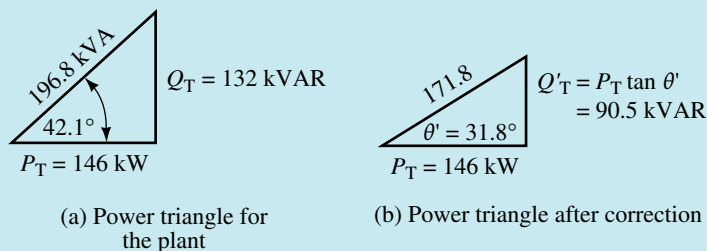

FIGURE 17–21 Initial and final power triangles. Note that P_T does not change when we correct the power factor.
Now consider Figure 17–22. $Q'_T = Q_C + 132 \text{ kVAR}$, where $Q'_T = 90.5 \text{ kVAR}$. Therefore, $Q_C = -41.5 \text{ kVAR} = 41.5 \text{ kVAR (cap.)}$. But $Q_C = V^2/X_C$. Therefore, $X_C = V^2/Q_C = (600)^2/41.5 \text{ kVAR} = 8.67 \text{ } \Omega$. But $X_C = 1/\omega C$. Thus a capacitor of